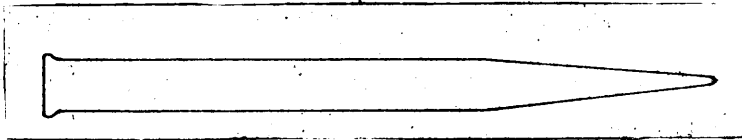

Figure 4.
1. Draw out to a point. (Figure 4).